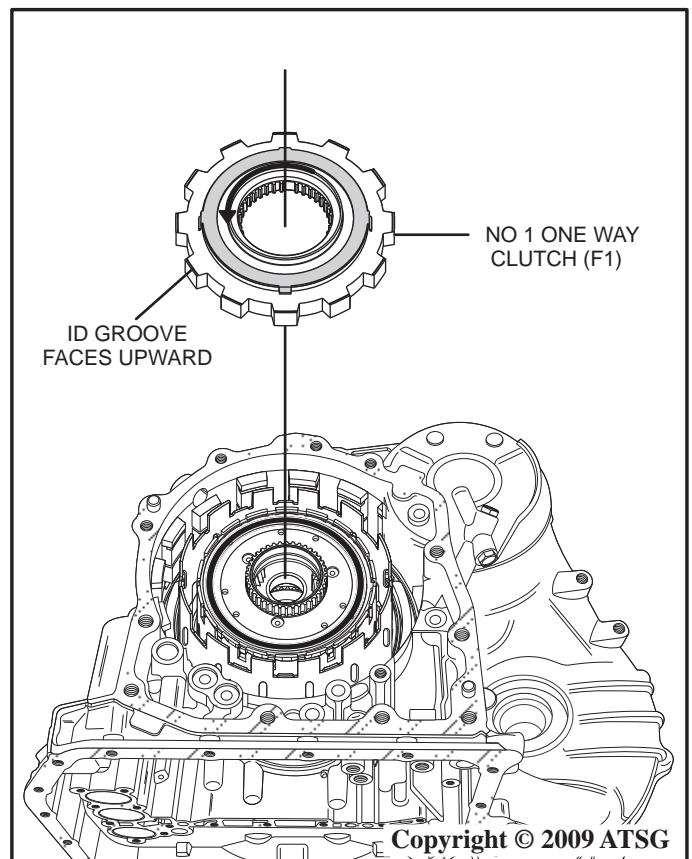

Figure 163
34. Install the No. 1 one way clutch (F1) assembly so it fits into the lugs in the outer shell as shown in Figure 163.
35. Make sure the id groove on the one way clutch assembly is facing up (*toward the back cover*) when installed as shown in Figure 163.